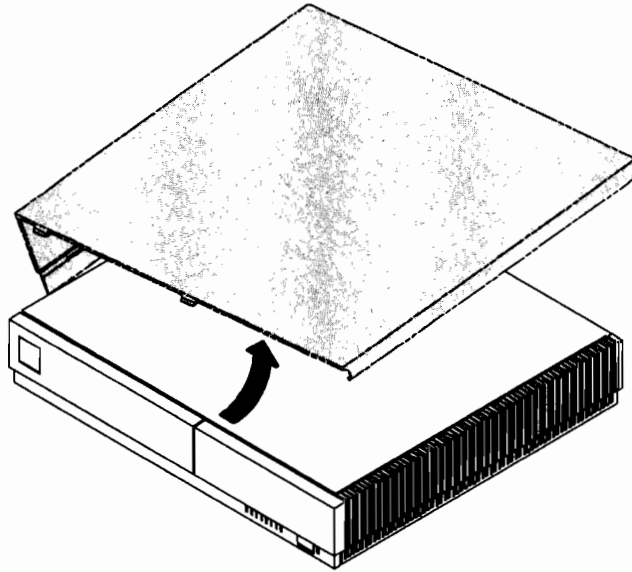

Figure B-2. Removing the Top Cover
2. Slide the back of the top cover up and, then pull the two front tabs out of their slots as shown in Figure B-2 . Remove the top cover.